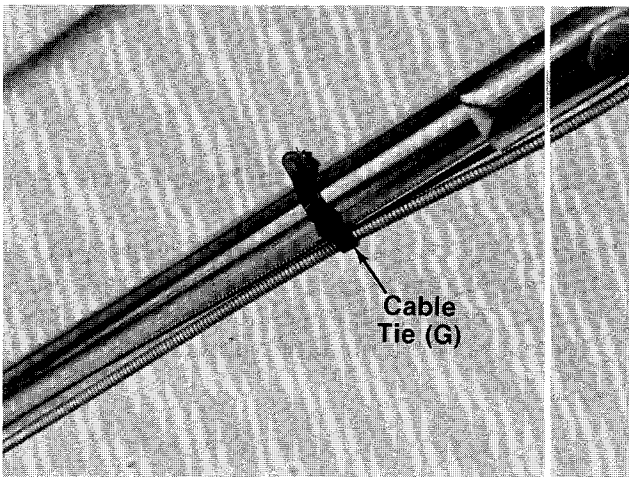

FIGURE 8.
13. Secure throttle control and brake cables to upper and lower handles with cable ties (G). See figure 8.